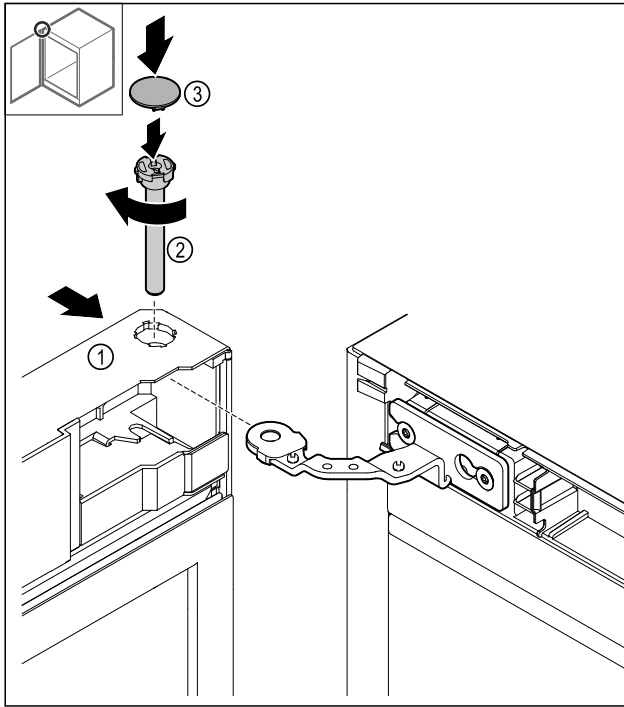

Fig. 48
- ▶ Slide the door Fig. 48 (1) onto the top hinge.
- ▶ Insert the bolt Fig. 48 (2) and turn it clockwise to tighten.
- ▶ Put on the cover Fig. 48 (4).